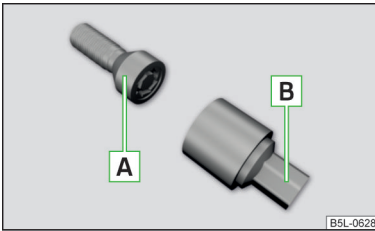

Fig. 177
- Insert the adapter **[B]** » Fig. 177 with its toothed side fully into the inner tooting of the safety wheel bolt **[A]** until the stop so that only the outer hexagon is jutting out.